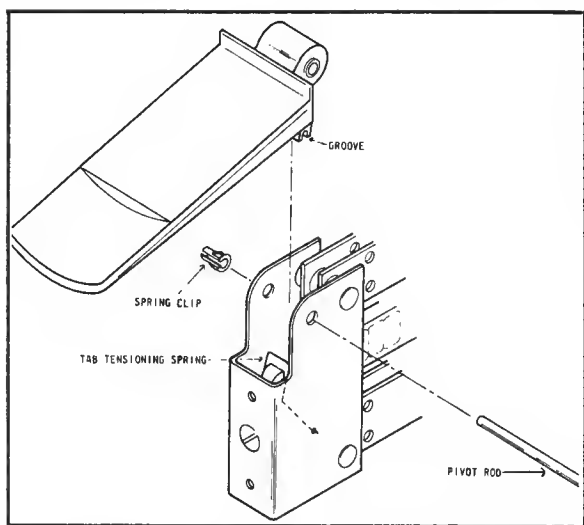

Figure 4-1. Control Tab Replacement
- c. Remove black spring clip from end of tab pivot rod (see Figure 4-1).
- f. Move switch to approximately midpoint of its travel. Insert new tab, making certain that groove in actuating end of tab engages tab tensioning spring in switch frame. See Figure 4-1.